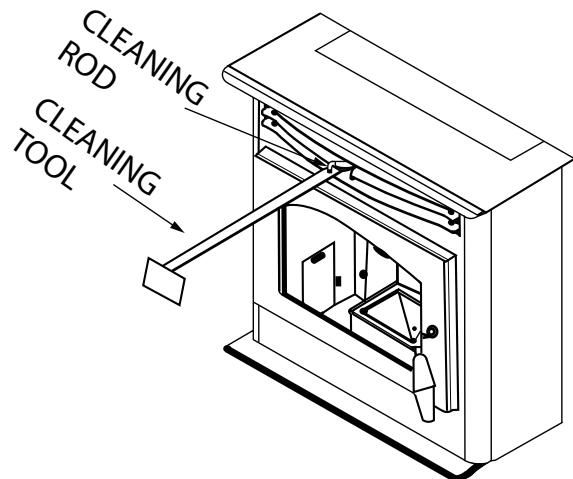

FIGURE 25
- b. Clean heat exchanger tubes (see “**CLEANING**” and Figure 25).
- a. **Heat Exchange Tubes** – Your stove is designed with a built-in heat exchange tube cleaner. This should be used every two or three days to remove accumulated ash on the tubes, which reduces heat transfer on this unit. Insert the handle end (with hole) of the cleaning tool onto the cleaning rod (refer to figure 25). The cleaner rod is located in the grill above the stove door. Move the cleaner rod back and forth several times to clean the heat exchanger tubes. Be sure to leave tube cleaner at the rear of the stove.